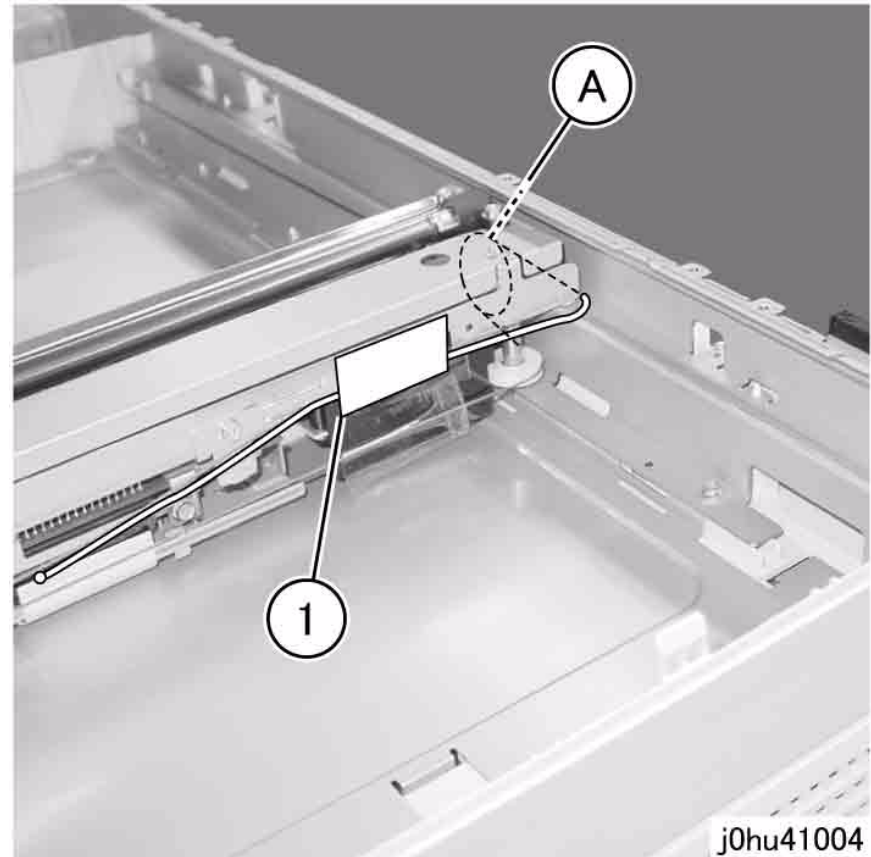

Figure 4 Secure Disconnected Silver Carriage Cable
6. Use pieces of tape to secure the Carriage Cable (silver) that was disconnected in step 5 so that it does not get separated from the pulley of the IIT Carriage (Figure 4).
- (A) Secure the Carriage Cable with tape